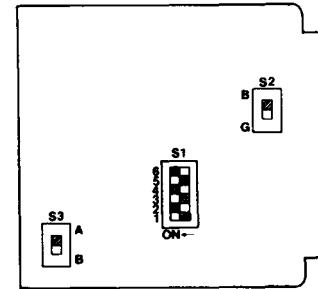

figure 2. 9003A option switch locations
2.05 The 9003A module requires no alignment. Optioning consists of enabling the ringing generator bias, and selecting either continuous or interrupted ringing. Locations of the option switches on the module's printed circuit board are shown in figure 2.